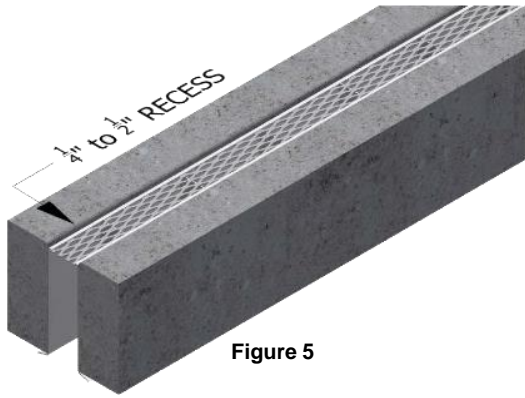

Figure 5
8. Backfill any remaining part of the trench to final grade (Figure 5)